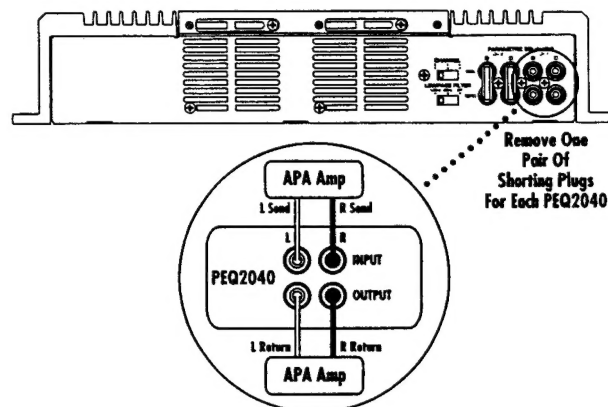

Figure 15. When interconnecting a PEQ2040, turn off power to the APA-series amplifier and remove its shorting plugs.
- ◆ If your system plan includes an (optional) Clarion PEQ2040 2-channel, 4-band parametric equalizer, you'll need to remove the amplifier's shorting plugs (with power off) to connect the PEQ2040, as shown in Figure 15. Also read the PEQ2040 Installation and Operation Guide.